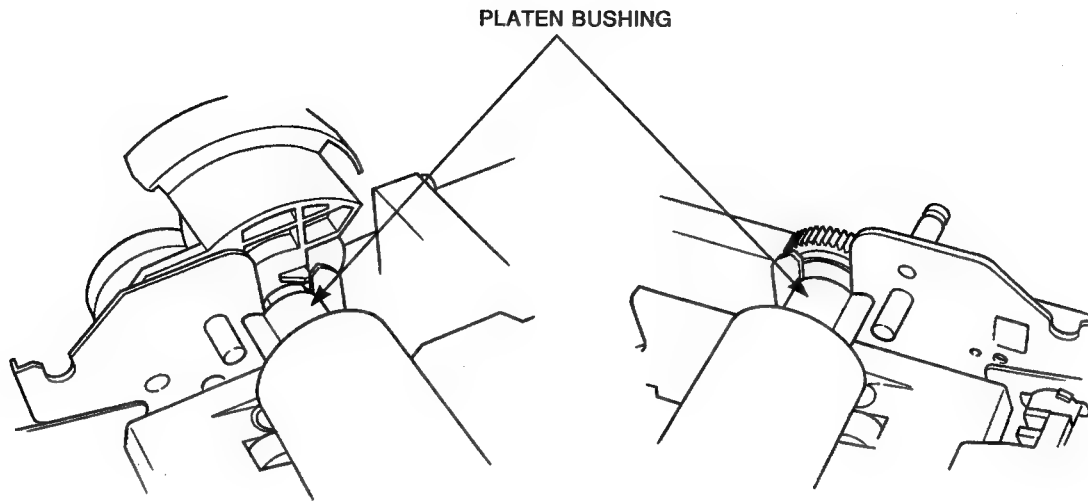
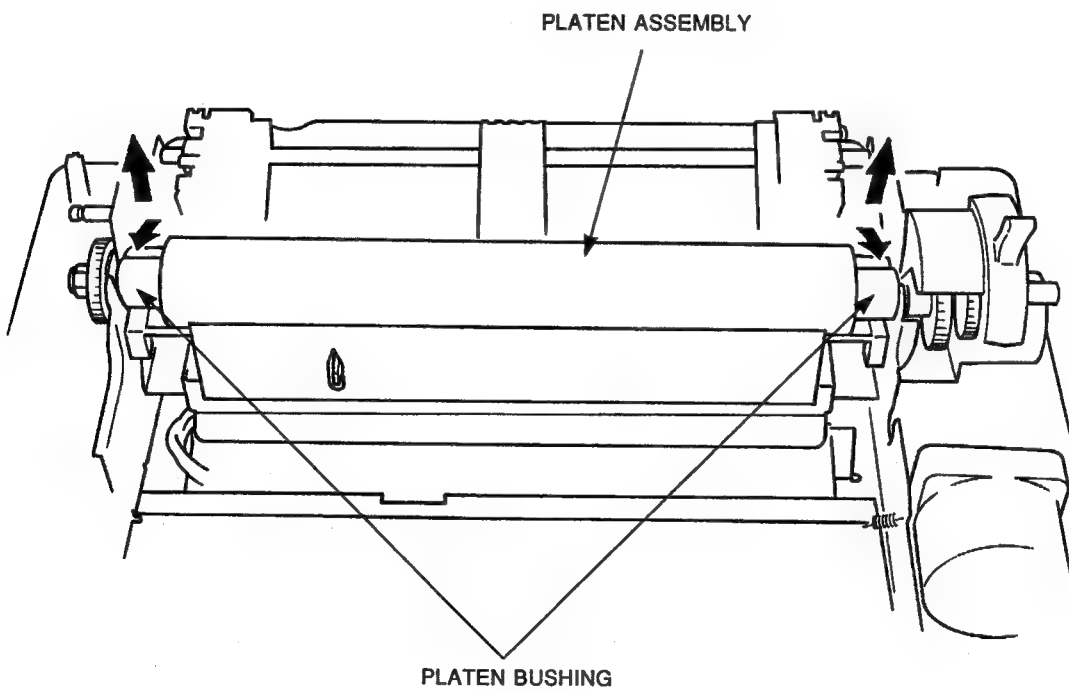

Figure 3-34 Platen Bushing
Figure 3-35 Platen Assembly
3. Unlock the locking tabs by turning the left and right platen bushing forward and remove the platen assembly (see Figure 3-34 and Figure 3-35).